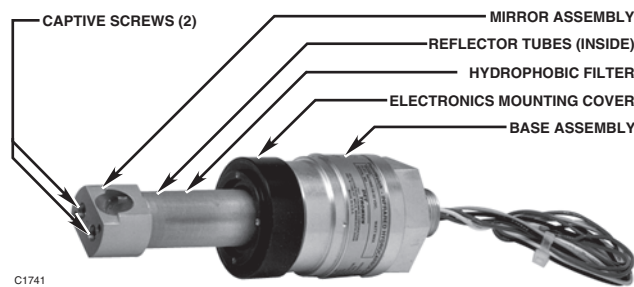

Figure 12—IR Module and Base Assemblies
2. Unscrew the factory-tightened electronics mounting cover (see Figure 12) by rotating it counter-clockwise with the Cover Removal Tool (P/N 009170-001). Only apply torque to the threaded cover. Do not use improper tools such as pliers or vise grips. Do not twist or apply any force to the mirror assembly.
2. Screw the electronics mounting cover clockwise onto the base assembly as shown in Figure 12.